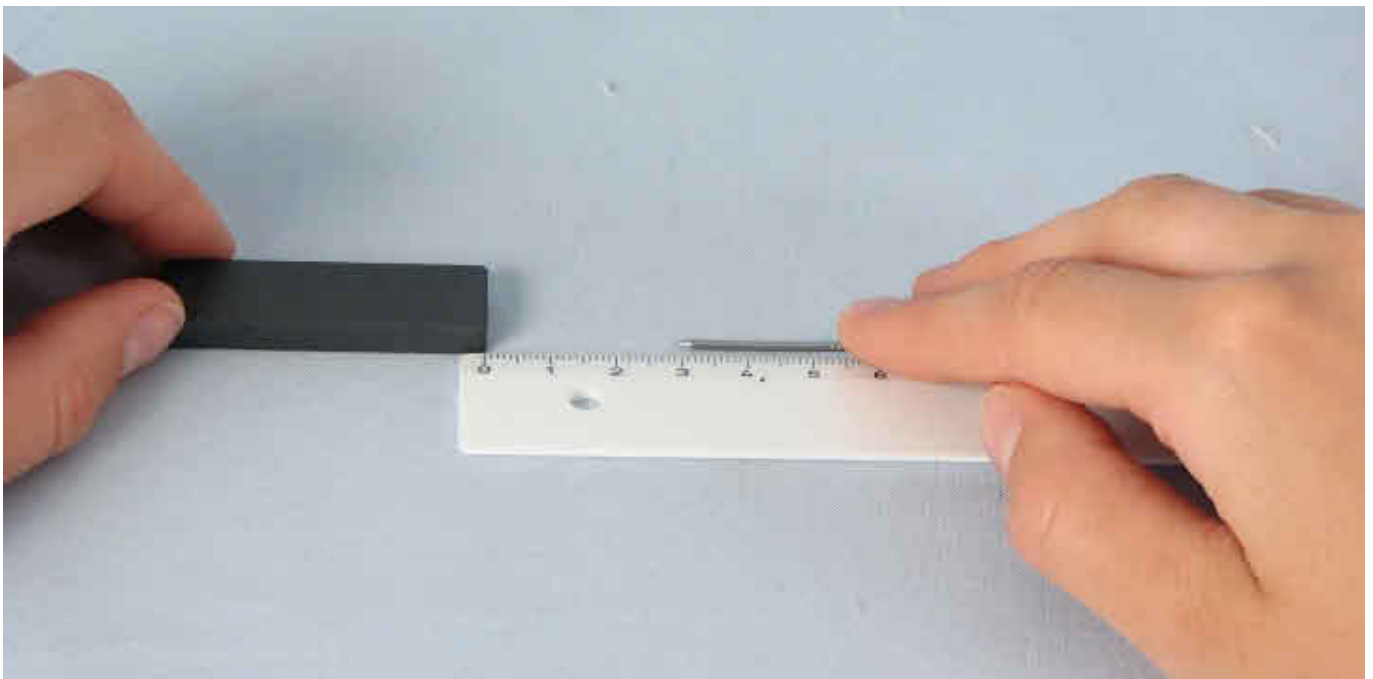

Fig. 3
- Push the nail tip-first along the ruler towards the magnet from the other direction (Fig.3). Read and record the distance at which the nail is subject to attraction.